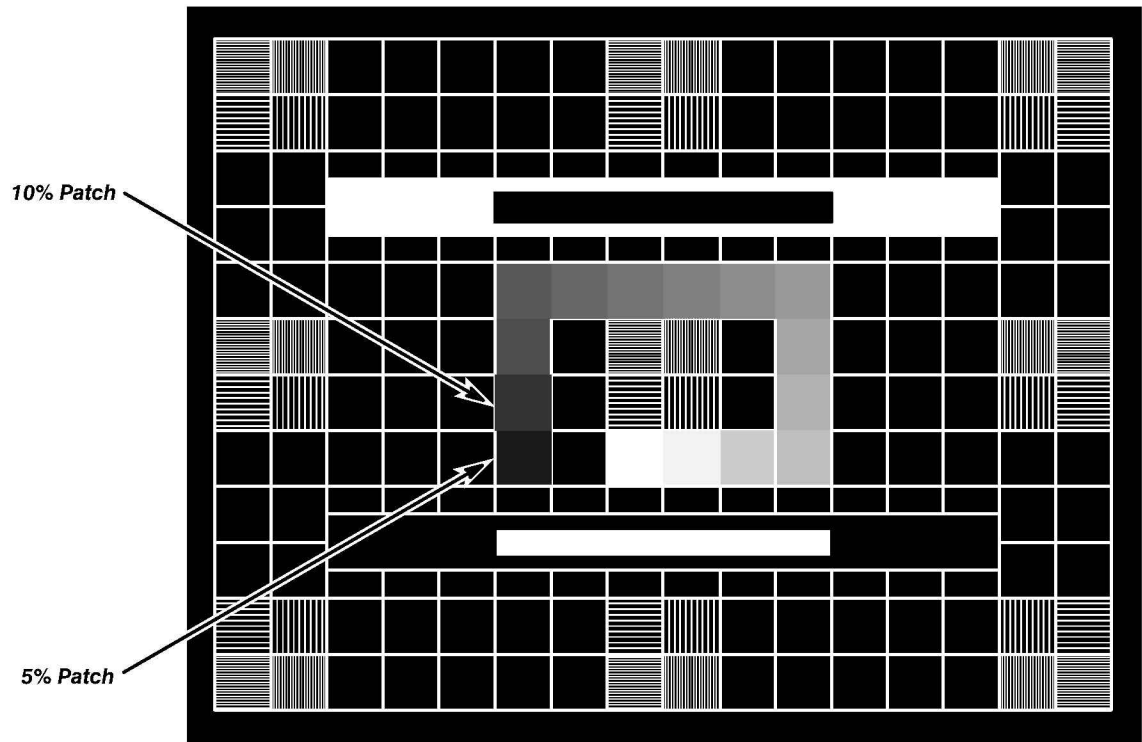

Figure 5-12: TDS 644A Five and Ten Percent Luminance Patches
- Adjust R569 (BRIGHTNESS) until the background raster lines in the 5% luminance patch (see Figure 5-12) just disappear, while the lines in the 10% luminance patch are just visible, when both are viewed through the magnifier.
- Adjust R403 (BRIGHTNESS) until the background raster lines in the 5% luminance patch (see Figure 5-12) just disappear, while the lines in the 10% luminance patch are just visible, when both are viewed through the magnifier.